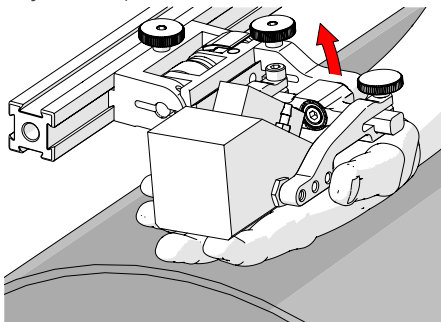

Fig. 49 - Lift to Latched position
1. Ensure the probe holder is in latched, upper position (Fig. 49). If the probe holder is already latched, it will only move within the slip joint adjustment range and have no spring tension.
1. Ensure the probe holder is in the upright latched position (Fig. 49).